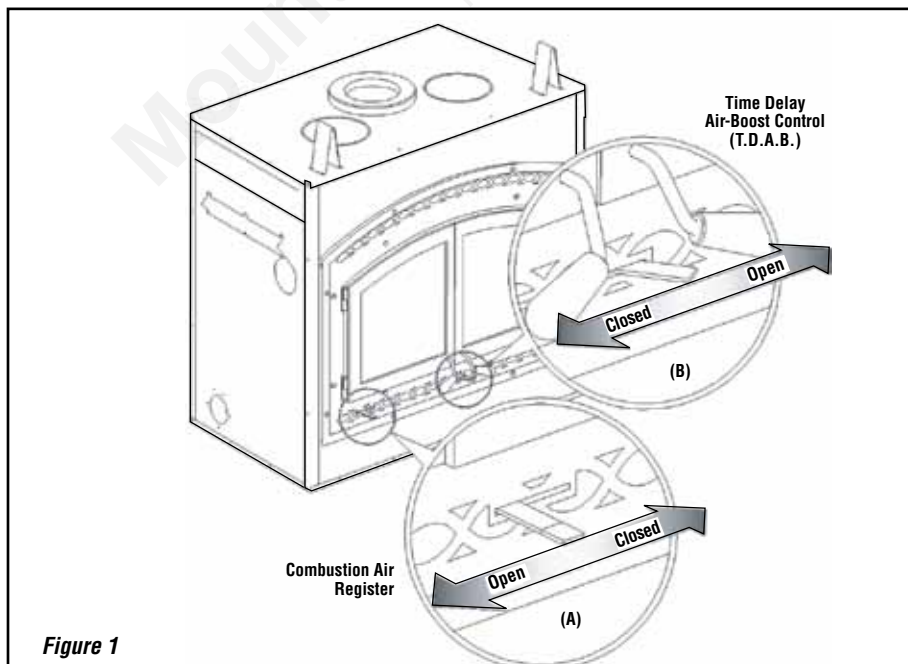

Figure 1
The combustion air control should be opened before opening the doors to minimize the possibility of back draft coming into the room (Figure 1-A) More details are available in *Refueling For Best Performance* on Page 5.
The register gradually reduces the amount of air injected, allowing for a better start of the fire, whatever the conditions (See sections *Building a Fire* and *Refueling For Best Performance* for proper sequence of operation). This allows you to start the fire, set the primary air control to the desired burn level and the fireplace will automatically adjust itself to that level once the fire is fully established (Figure 1-B).
- A. Completely open the air control level and the T.D.A.B. (Time Delay Air Boost) level. See *Figure 1*.